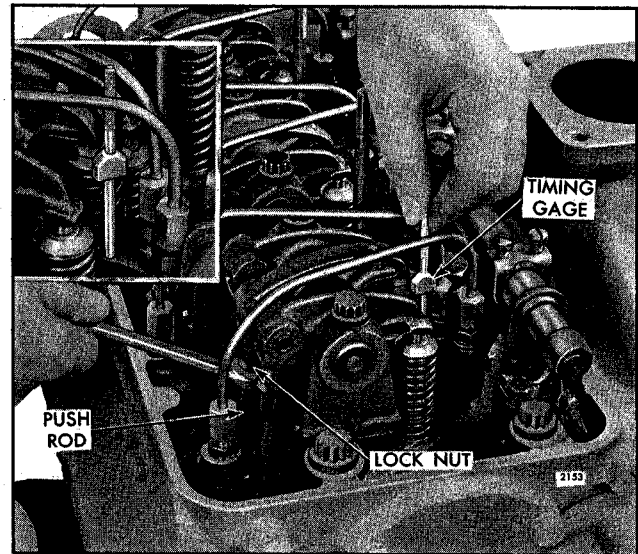

Fig. 3 - Timing Fuel Injector
4. Place the small end of the injector timing gage (see table below for correct timing gage) in the hole provided in the top of the injector body, with the flat of the gage toward the injector follower as shown in Fig. 3.